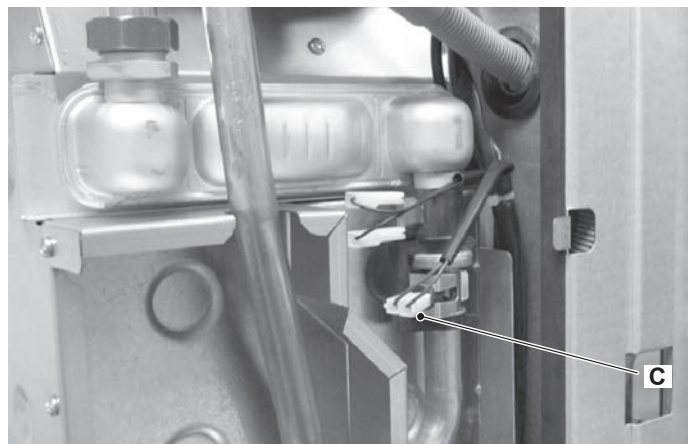

Figure 10.7
- 5 Disconnect the electrical connectors C of the C.h. temperature probe NTC in Figure 10.7.
- 7 Connect the the electrical connectors C of the C.h. temperature probe NTC in Figure 10.7.